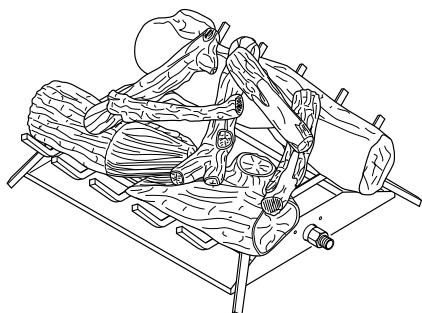

Figure 17 - Placement of Top Logs
3. Place smaller top logs onto bottom logs (see Figure 17). Leave as much open space between logs as possible to minimize flame impingement and sooting.